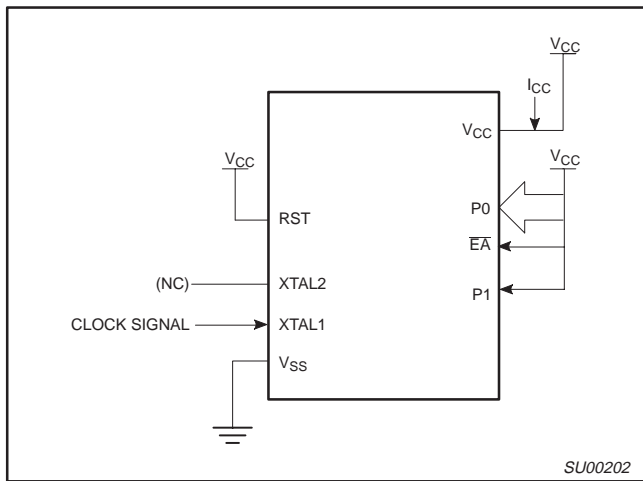

Figure 13.  $I_{CC}$  Test Condition, Active Mode
- See Figures 13 through 16 for  $I_{CC}$  test conditions.